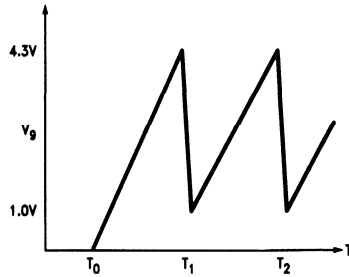

FIGURE 6
**Note 5:** Time for first repeat period, see Figure 6.
With a capacitor connected between pin 9 and ground the repeat oscillator will run with a waveform as shown in *Figure 6* and a thermo-resistive probe measurement will be triggered each time pin 9 reaches a threshold of  $4.3V$ , provided pin 8 is at a logic low level. The repeat oscillator runs independently of the pin 8 control logic.